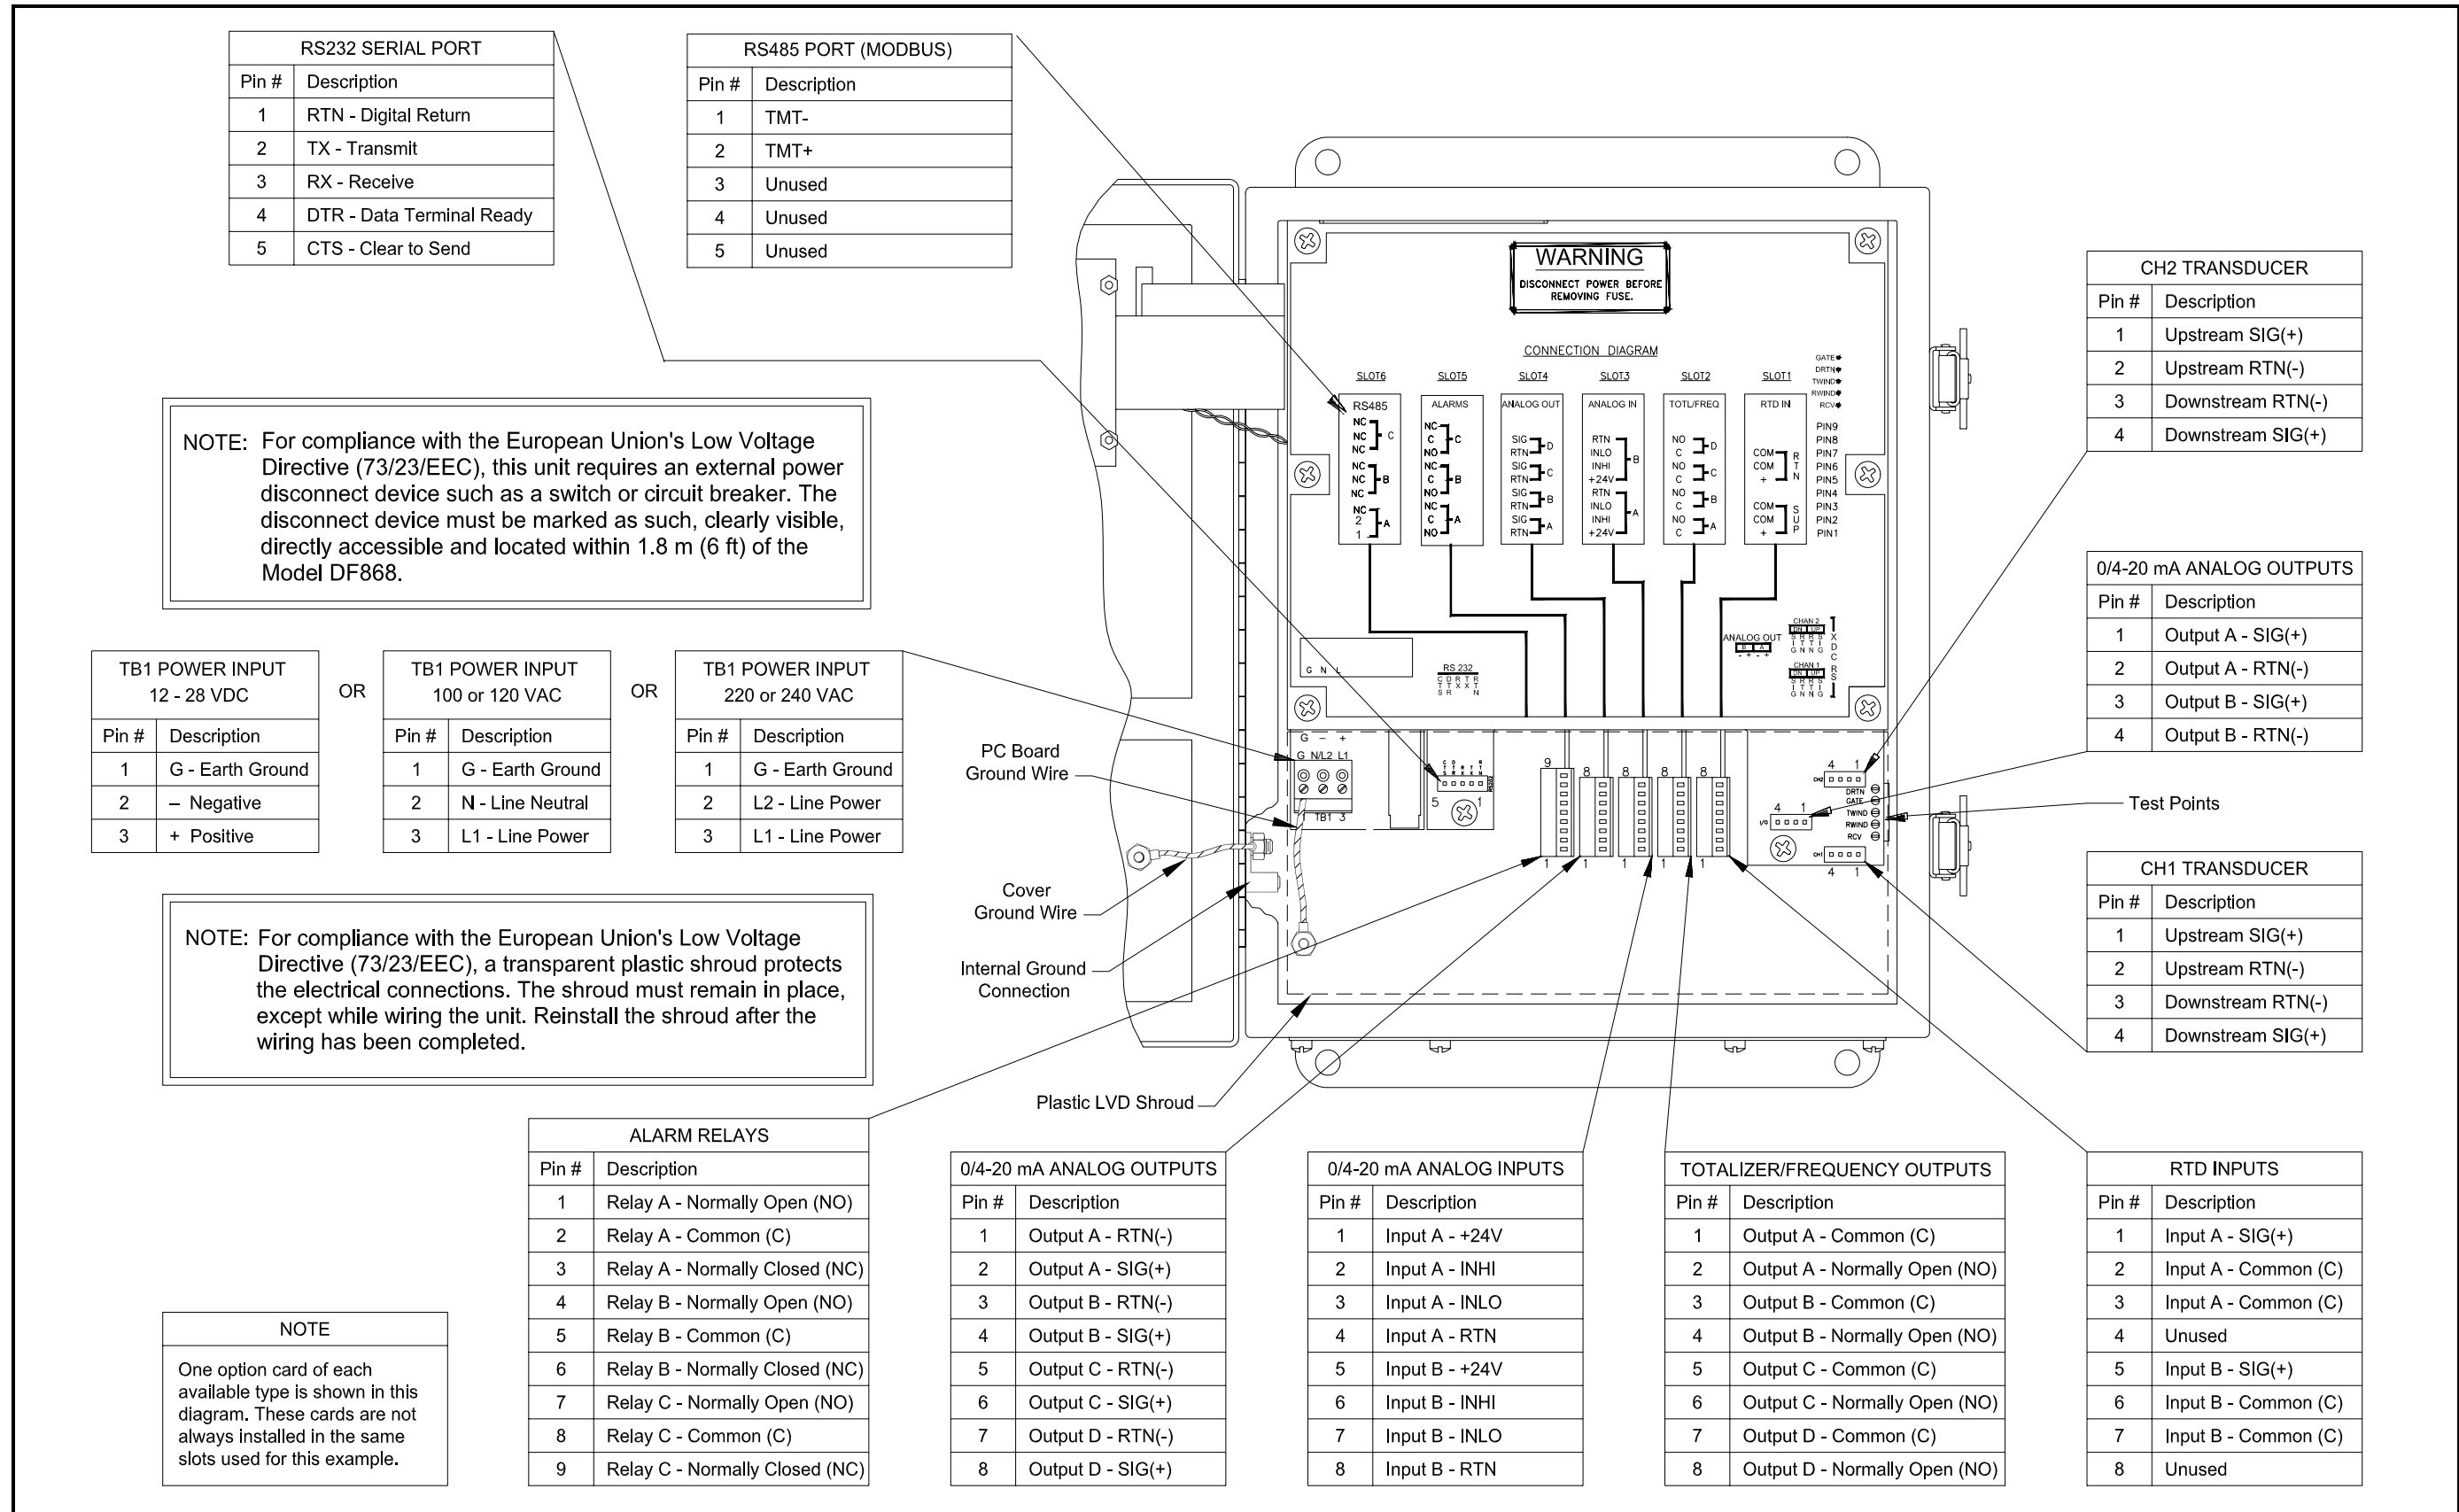

Figure 1-10: DF868 Electronics Console Wiring (ref. dwg #702-213)
Refer to *Figure 1-10* on page 1-20 for the location of terminal block I/O and wire the terminal block as shown.
Use the serial port to connect the DF868 flowmeter to a printer, an ANSI terminal or a personal computer. The RS232 interface is wired as Data Terminal Equipment (DTE), and the signals available at terminal block J1 are shown in *Table 1-2* below. Refer to *Figure 1-10* on page 1-20 and complete the following steps:
To wire the RS485 serial port, refer to Figure 1-10 on page 1-20 and complete the following steps:
- Connect the two wires required for each alarm relay as shown in *Figure 1-10* on page 1-20.
Wire the analog input option card terminal block in accordance with the pin number assignments shown in *Figure 1-10* on page 1-20.
Each totalizer/frequency output requires two wires, which must be connected in accordance with the pin number assignments shown in *Figure 1-10* on page 1-20. *Figure 1-8* below shows sample wiring diagrams for totalizer and frequency output circuits.
Wire the option card terminal block in accordance with the pin number assignments shown in *Figure 1-10* on page 1-20.
Connections to these outputs may be made with standard twisted-pair wiring. The total current loop impedance for these circuits must not exceed 1000 ohms. Wire the option card terminal block in accordance with the pin number assignments shown in *Figure 1-10* on page 1-20.
The MODBUS option card must be installed in either slot 5 or slot 6 of the DF868. On the option card, pin 1 is the [TMT-] inverting or negative connection and pin 2 is the [TMT+] non-inverting or positive connection. To link the DF868 to the control system, connect the two wires of the twisted-pair cable from these terminals to the corresponding terminals at the control system, in accordance with the pin number assignments shown in *Figure 1-10* on page 1-20.